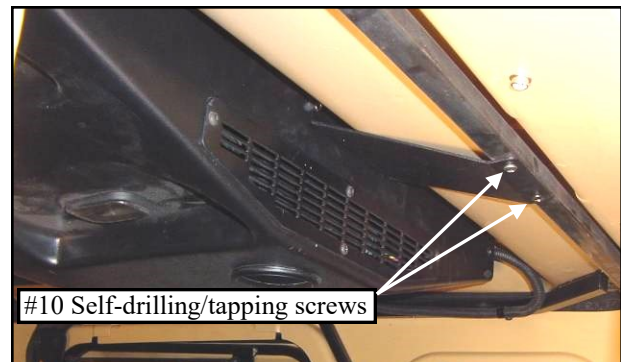

Figure 2.3 (view from front passenger's side)
2.3 Per fig. 2.3, orient heater unit with heater mount as shown. With someone supporting the back, line up the holes in the mount with the marks made in the previous step. Attach with two #10 x 3/4" long self-drilling/tapping screws using a drill, taking care not to over-tighten and strip out the threads.